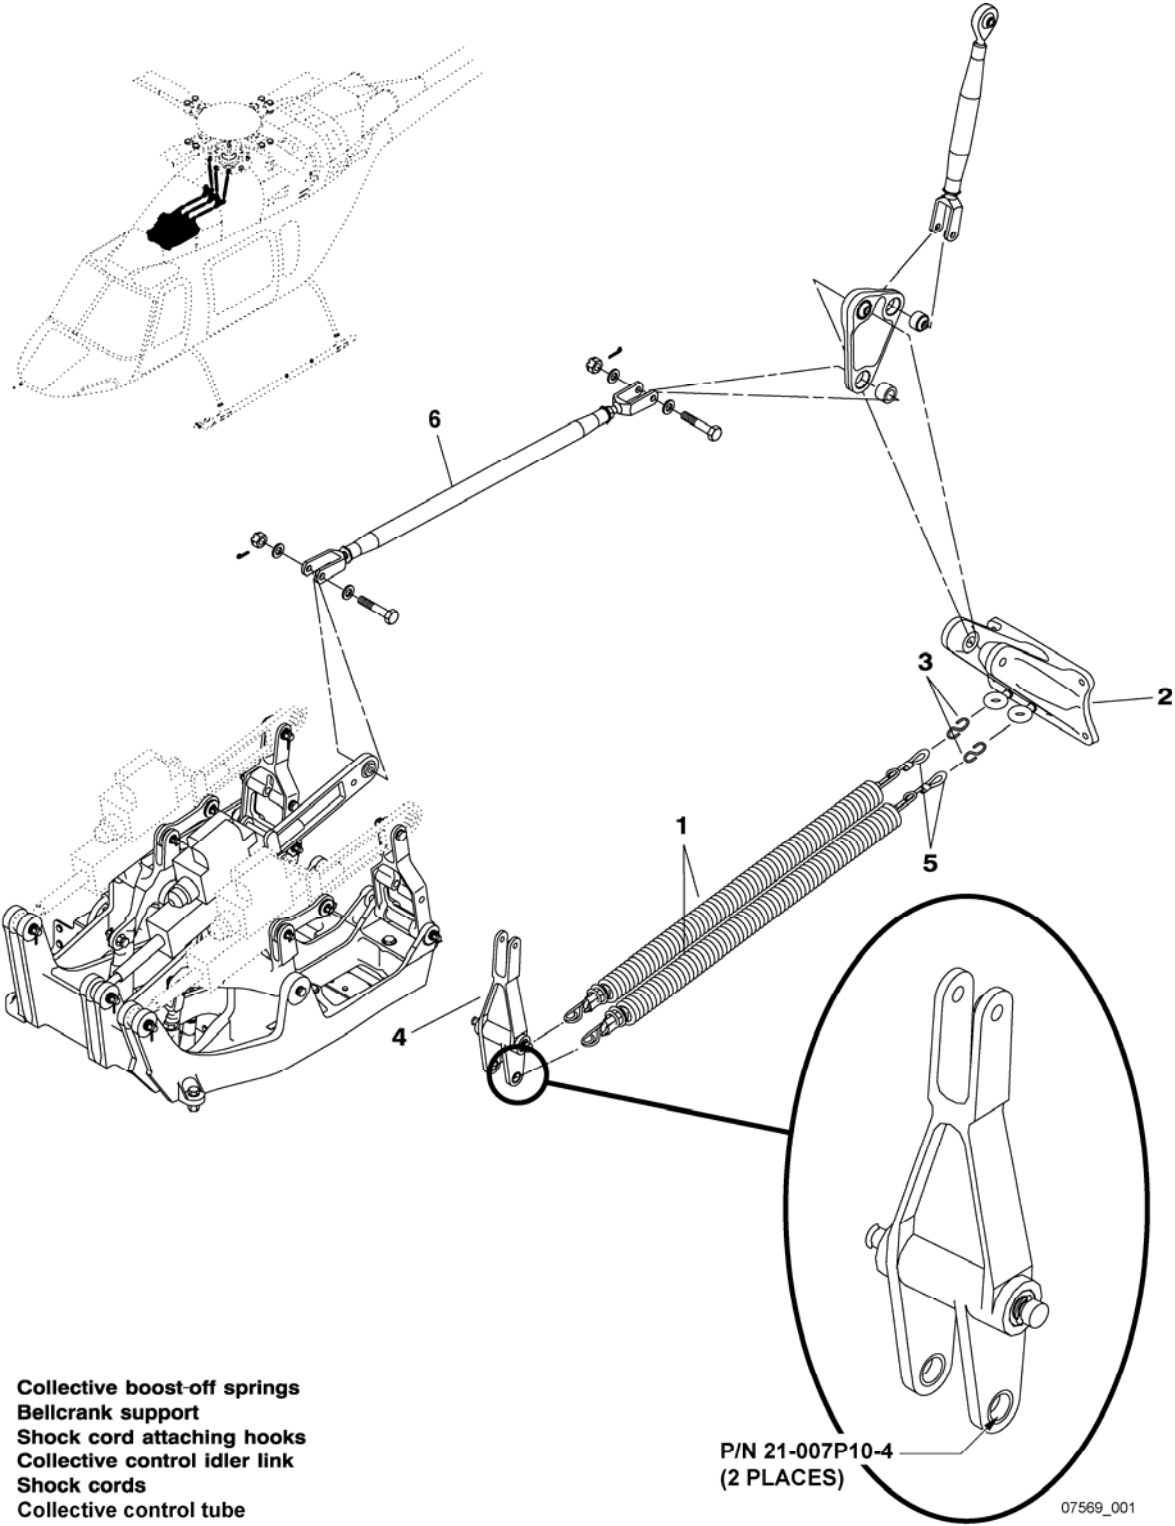

Figure 1
3. Locate the collective control idler link P/N 427-001-532-101. Refer to the BHT-427-MM, chapter 67 and figure 1 for details.